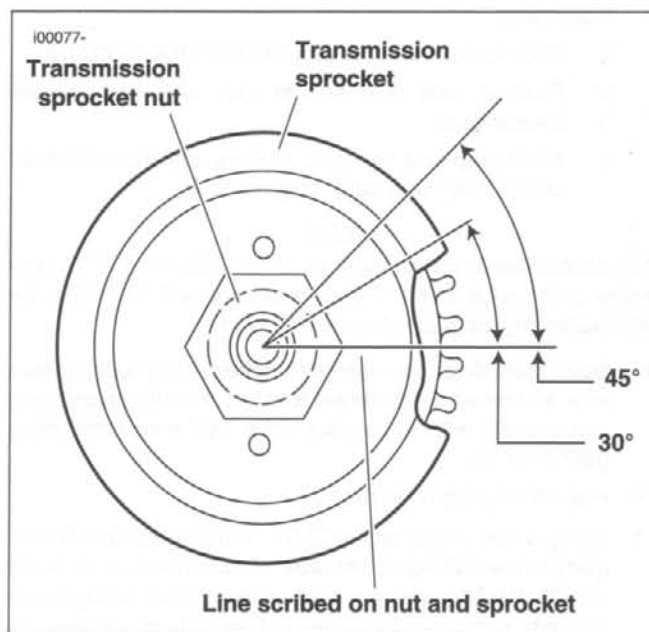

Figure 6-64. Aligning Transmission Sprocket
- b. See Figure 6-64. Scribe a line on the transmission sprocket nut and continue the line on the transmission sprocket as shown.
- e. See Figure 6-64. If lockplate will not align with holes, tighten nut to 45° maximum.